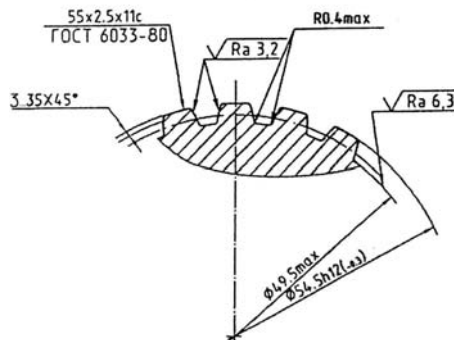

Figure 4.152
6) before mounting brake as an assembly on the tractor, align eight brake disks 5 (Figure 4.151) by means of special mandrel «A», having splined section matching slot openings of brake disks For mandrel sketch see (Figure 4.152).